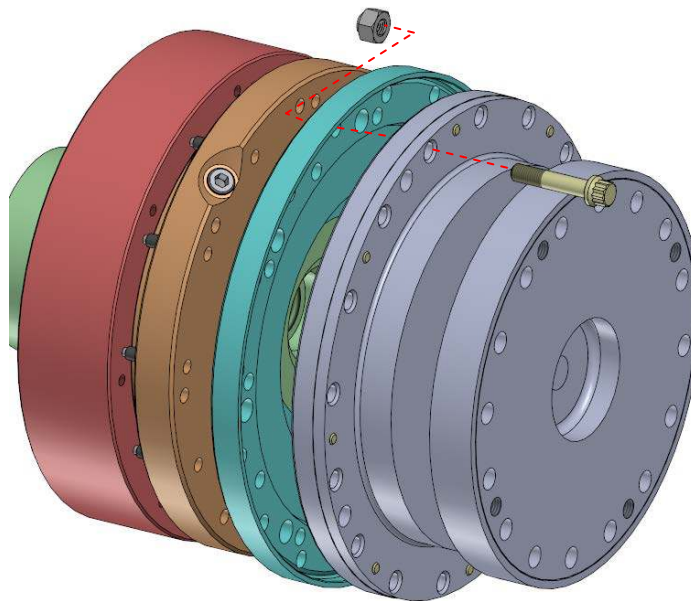

Figure 8 – Flex Assembly Installation on Hub Flange
4.1.1 Install one flex assembly onto the hub as shown in Figure 8 aligning the holes using Qty (4) bolts and nuts spaced 90 degrees apart. Tighten the bolts/nuts a few turns at a time in a criss-cross pattern to seat the pilot evenly. Install the remaining bolts and nuts and torque evenly in a criss-cross pattern to the torque shown on drawing HC-6576.